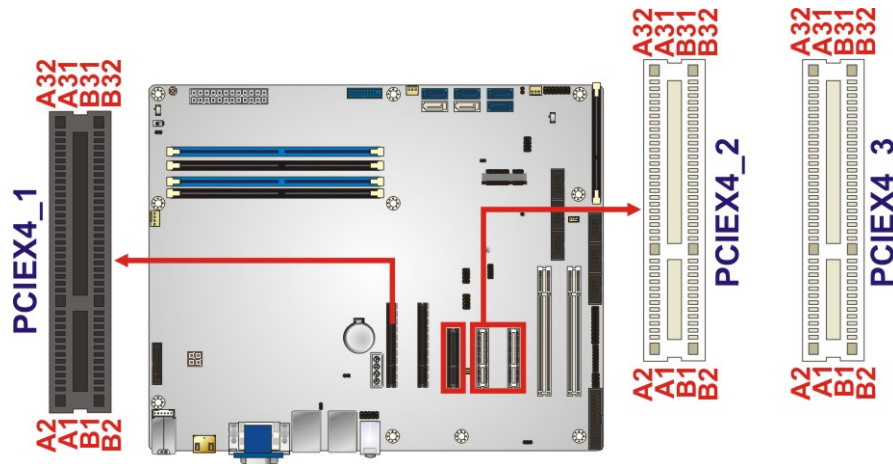

Figure 3-21: PCIe x4 Slot Locations
- CN Location: See **Figure 3-21**